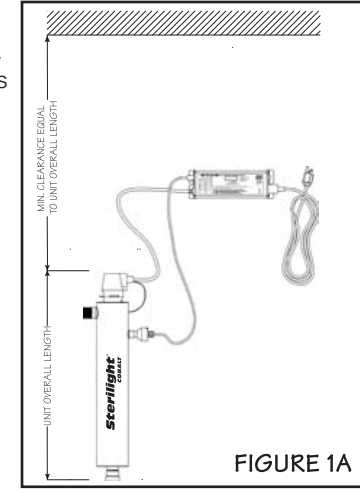
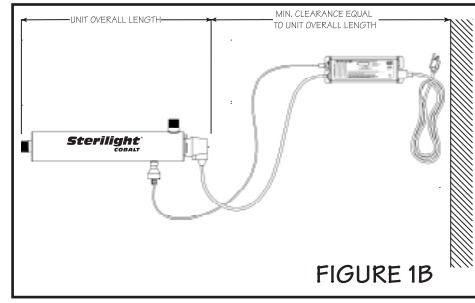

FIGURE 1A
FIGURE 1B
2. Select a suitable location for the disinfection system and its related components. As it is recommended to install a ground fault protected circuit (GFCI), make sure that this is taken into consideration prior to any installation. The system can either be installed vertically (inlet port at the bottom) (Figure 1A), or horizontally (Figure 1B), however the vertical installation is the most preferred method. When selecting a mounting location, you must also leave enough space to allow for the removal of the UV lamp and/or quartz sleeve (typically leave a space equal to the size of the reactor chamber itself). (Note: Installation drawings show Cobalt "PLUS" system with UV sensor for representation purpose only)